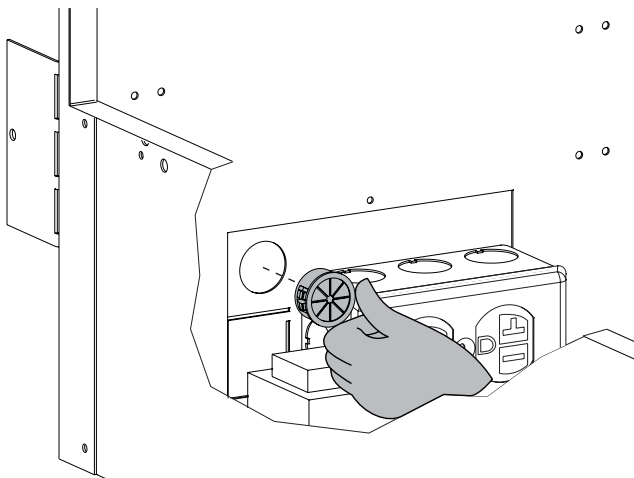
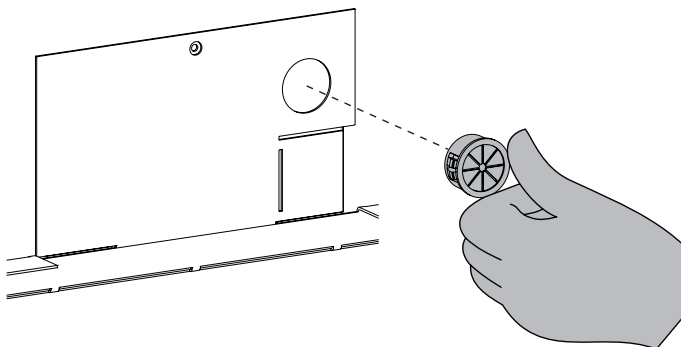

Figure 33
Figure 34
13. Install the provided plastic bushing in the opening where the wires exit the fireplace. **See Figure 33 (left side), or Figure 34 (right side).**